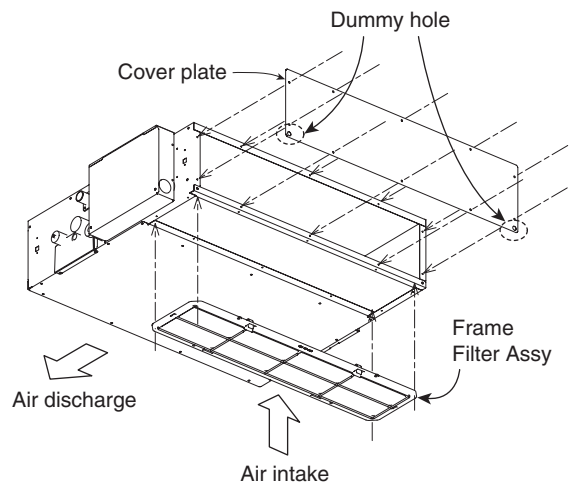

Fig. 3-5
- (2) Refer to the diagram to attach the cover plate and frame filter assy in the direction of the arrow. (Fig. 3-5)